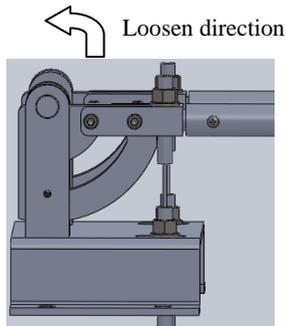

Figure 10
- ④ Pull the handle to rotate round the shaft, as the brake opened, the brake-loosing movement is finished. Be shown as figure 10: